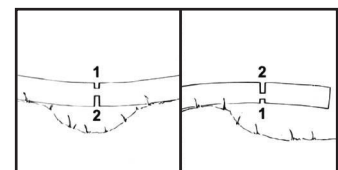
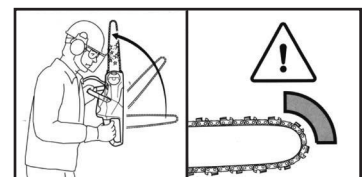

Fig. 1
Fig. 2
**Warning: If the tree is under tension, the guide bar may be pinched. The user will lose control of the chain saw, resulting in serious injury. (Fig. 1)**
- First cut a force-relief groove from the tight side (1), and then cut into the loose side (2).
**Kickback warning (Fig. 2)**